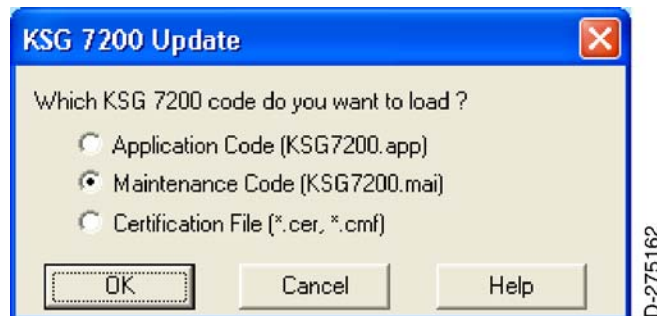

Figure 18. (Sheet 1 of 1) KSG 7200 Update Window (Maintenance Code)
- (5) Click on the KSG 7200 Dual Channel ADAHRS button and the following KSG 7200 Update window shown in Figure 18 will appear. Click the radio button to the left of the Maintenance Code [KSG7200.mai] update selection.